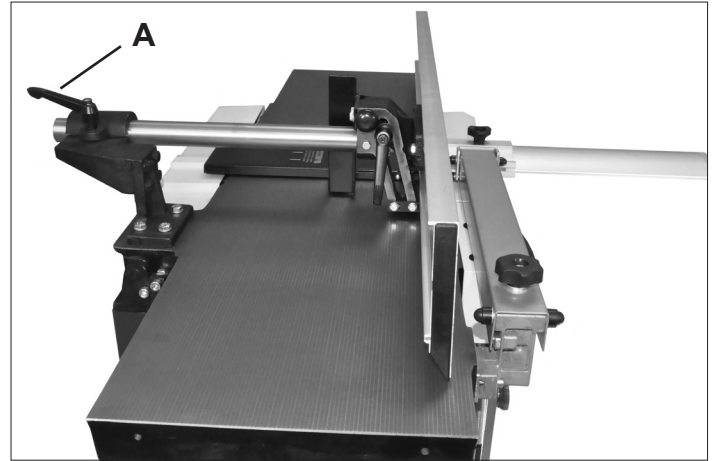

FIG. 36
1. Pull the jointer fence fully forward, and tighten the locking handle (FIG. 36, A)